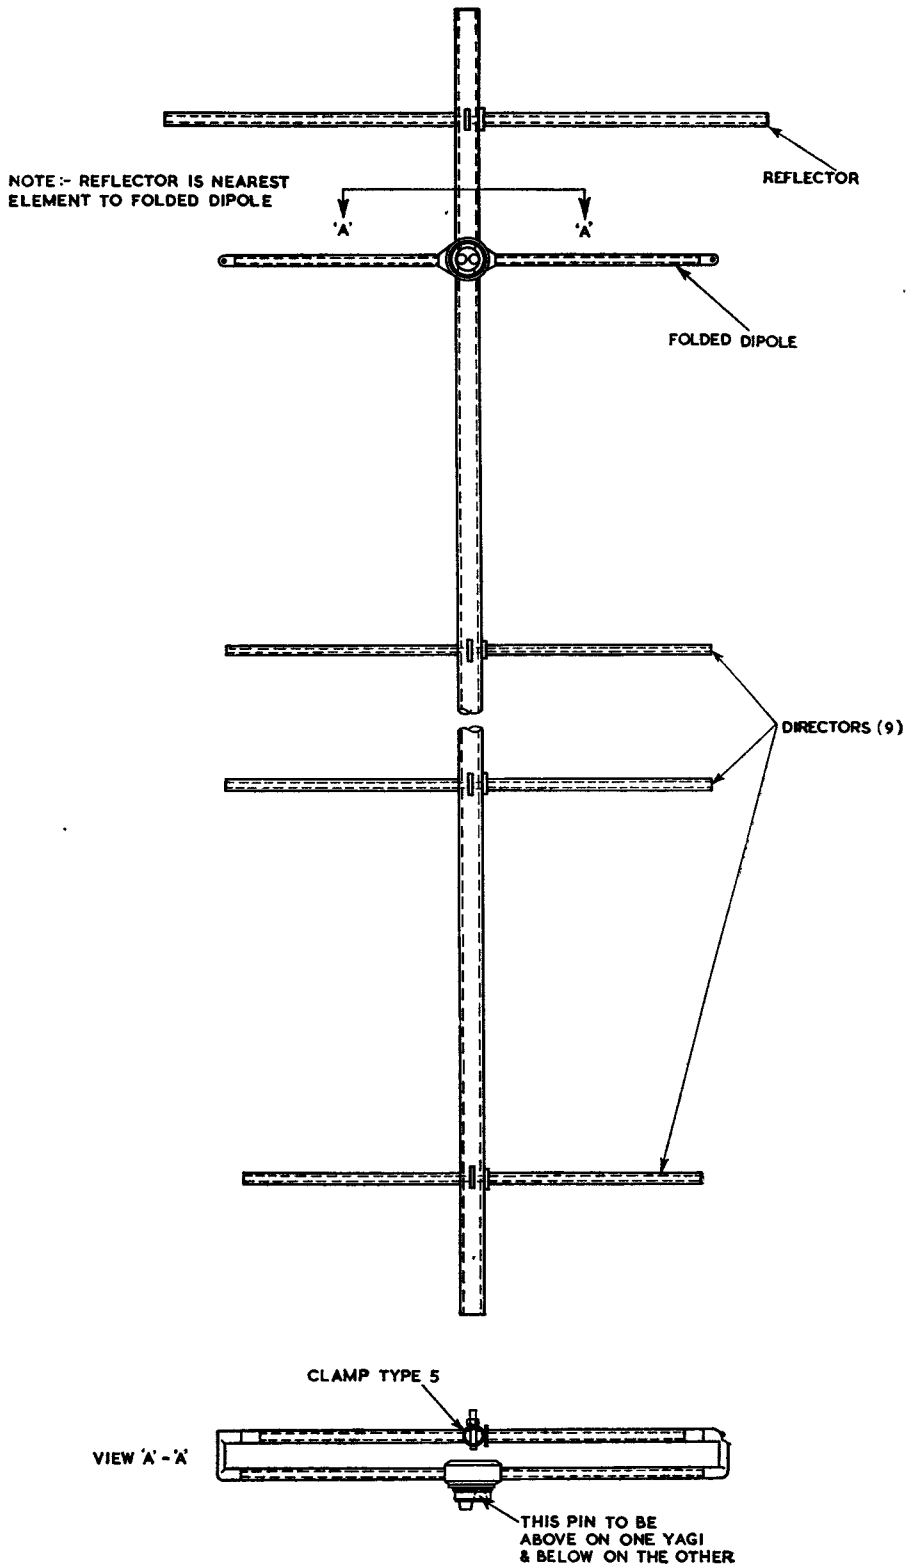

Fig. 35. Aerial array Type 102
39. The assembly of the aeriels is best done on the ground. First fit the reflector element, which is the longest rod, taking care to fit it at the correct end of the tube. Fig. 35 shows the construction of one aerial; the nine director elements are spaced at equal intervals from the dipole and from each other, but the reflector is much nearer the dipole than is the first director. The rods are fitted with a ring to ensure that they are clamped symmetrically in the tube. Consequently, put the longest part of the rods through the tube first, push the ring hard against the side of the tube, and then secure the rod by tightening the nut on the clamp.
41. Fit the completed aerial assemblies as shown in fig. 35 with the polythene plugs of the dipole pointing inwards. The lug on the main tubes should mate with the hole in the clamp plate of the front support tie-beam. Tighten the wing nuts on the clamping blocks.